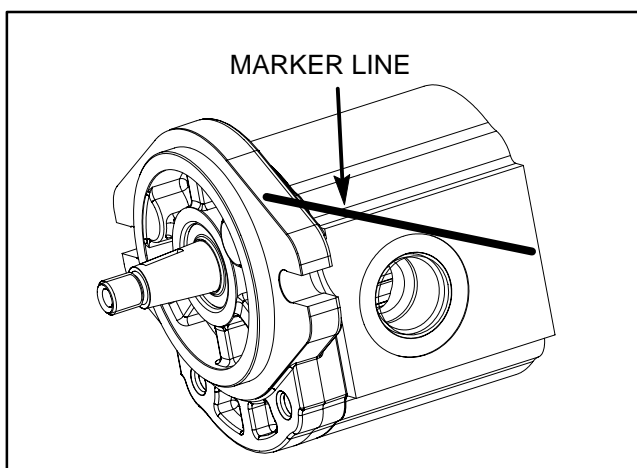

Figure 92
2. Use a marker to make a **diagonal** line across the front flange and body for assembly purposes (Fig. 92).